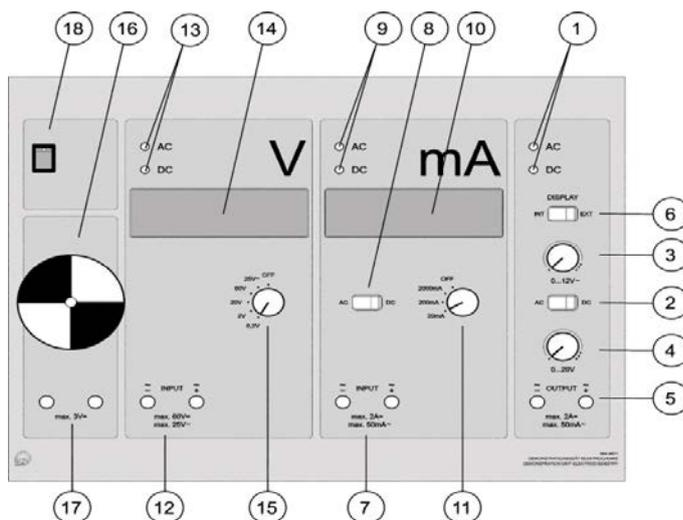

Fig. 2: Sketch of the demonstration unit.
Place one nickel electrode in each of the two outermost grooves of the electrolysis cell. Then, set the electrolysis cell prepared as described with the drip pan onto the tray of the demonstration unit. Connect one output socket of each power supply (5) to a nickel electrode using a gripping clamp. At the power supply, set the changeover switch (2) to the AC (alternating current) position, and do the same for the changeover switch on the measuring unit (8). Turn on the measurement display of the power supply (selector switch (6)) (see Fig. 2).